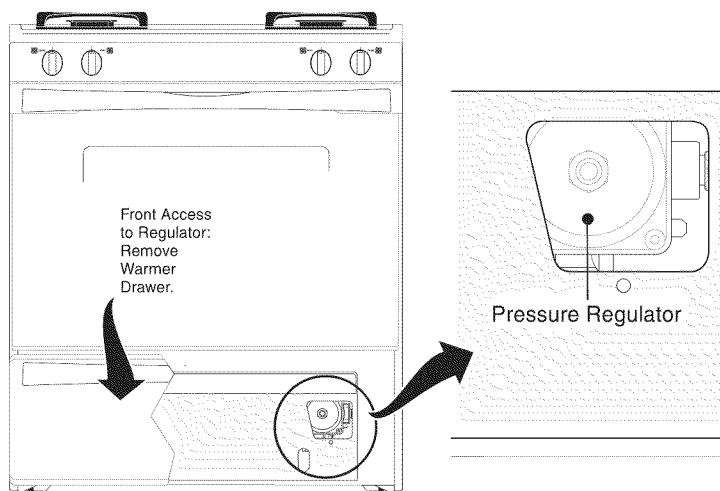

Fig. 2
- c. Pull the Warmer Drawer away from the range (See Fig. 2).